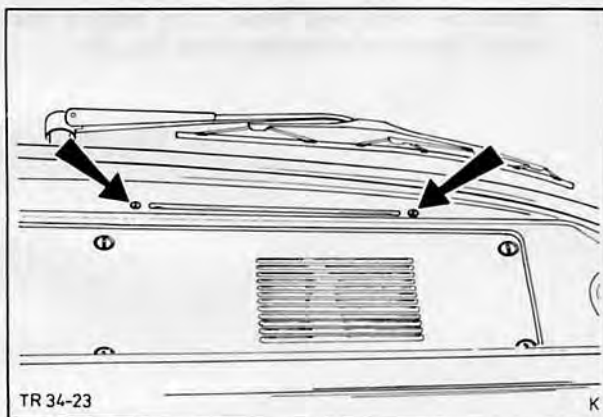

Fig. 26. Remove demister nozzle
1. Remove demister nozzle (2 screws), Fig. 26, and withdraw complete with hose.